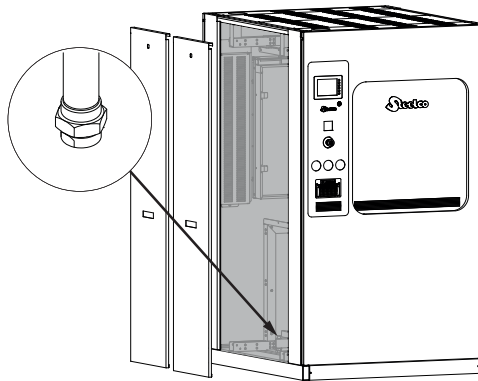

Figure 4 – Water outlet
- ▶ Connect the exhaust to the general drain system and ensure that runoff has the required characteristics (Figure 4).